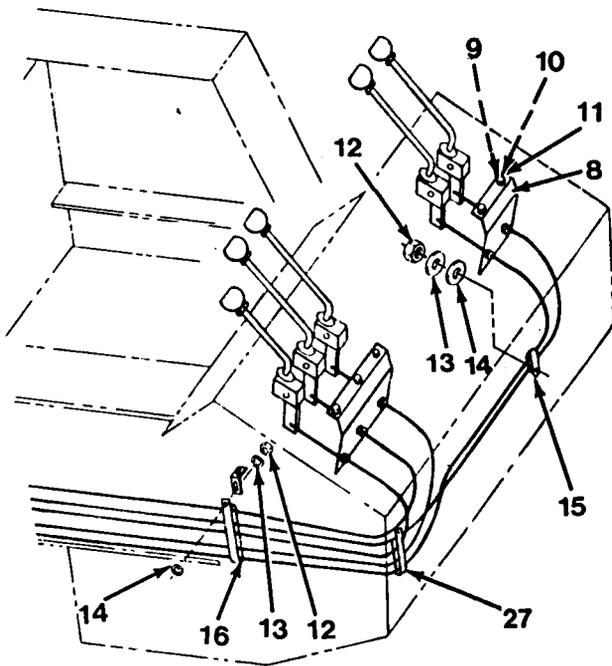
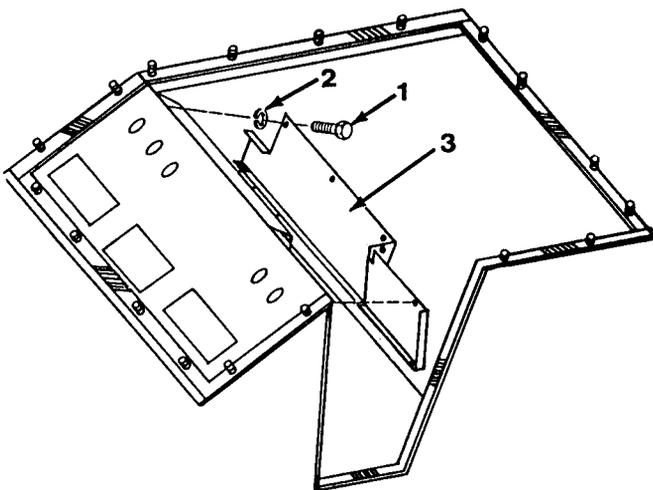

Figure 17-3
Figure 17-1
- A5. Install bracket (8) with two capscrews (11), lockwashers (10) and nuts (9, Figure 17-3).
6. Tighten locking nuts and washers on bracket (8).
7. Position cable (7) through clamps (16) and install washer (14), washer (13) and nuts (12).
8. Position cable (7) through clamp (27) and clamp (15) and install two washers (14), washers (13) and lock nuts (12).
9. Install front panel (3) with six lockwashers (2) and capscrews (1, Figure 17-1).